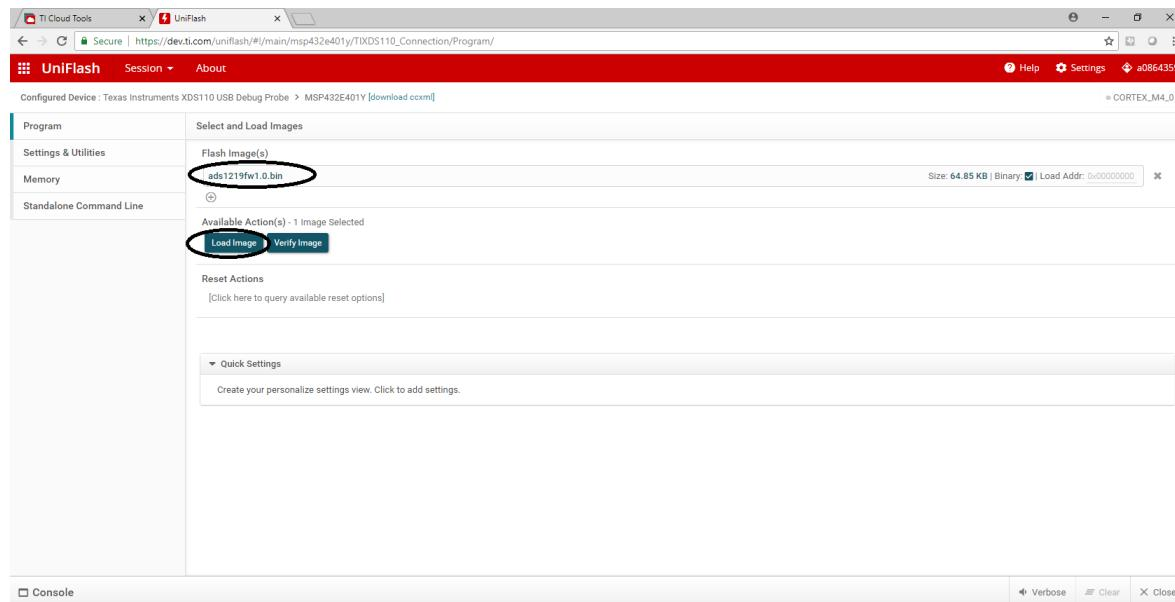

Figure 10. UniFlash: Load Image
4. When the flash binary image file is located, press the *Load Image* button to start the firmware download, as shown in Figure 10.